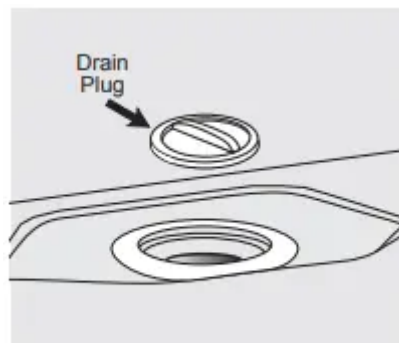
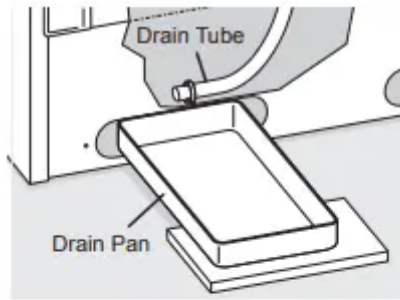

Figure 1A
Figure 1B
• **On upright models with a defrost drain** (Figure 1A), remove drain plug on the inside floor of the freezer by pulling straight out.
To access external drain tube on models with a base panel, first remove the 2 screws from the base panel. Locate the drain (see figure 1B or 1C). Figure 1A Drain Plug
- For Figure 1B the drain hose is attached to the cabinet above the oval hole.